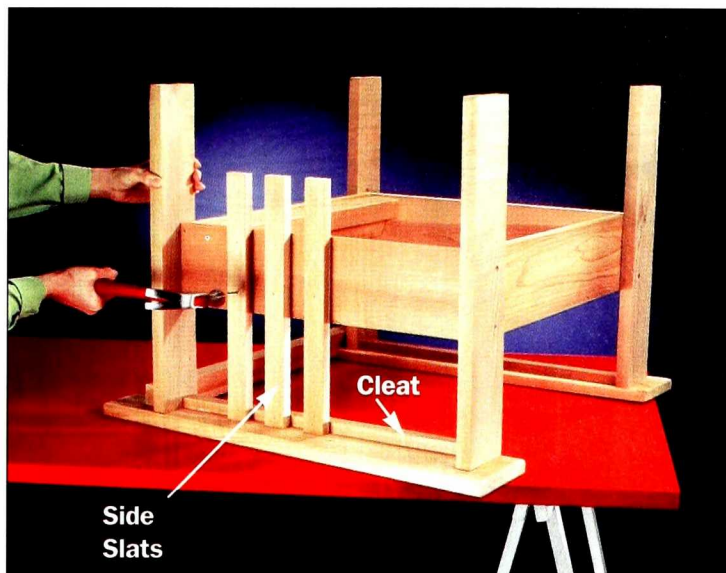

Figure 5: Attach the side slats with the chair upside down. Start in the middle, and leave a 1½ inch space between slats.
- To install the slats, turn the chair upside down and cut the cleats (T) to fit under the arms between the front and back legs (Figure 5).
- Glue and nail part T onto the underside of each arm, making sure it is 1½ inches from the inside edge of the legs, just as the box was (Figure 5). The side of part T should line up with the side of the box, so the slats rest tightly on both (see the plan detail on page 16).
- Glue and nail the side slats into the box and underarm cleats (T), starting with the center slat positioned in the middle of the box. Then move out in each direction, leaving a 1½-inch space between the slats.
- Measure the distance between the front and back leg and cut the lower side slat rail (S) to fit into place. Center S over the slats and nail through the bottom of S into each slat.